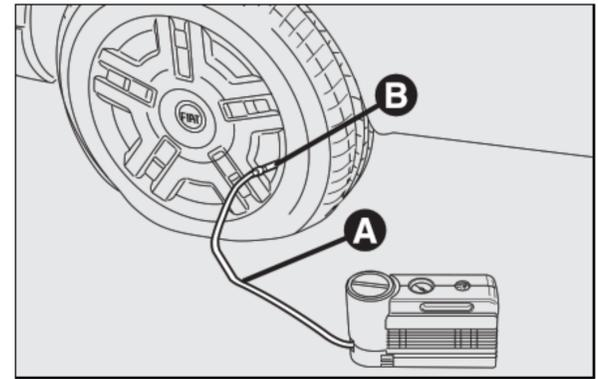

fig. 12
- Pull up the handbrake.** Loosen tyre inflation valve cap, take out the filler hose **A**-fig. 12 and screw the ring nut **B** on the tyre valve;